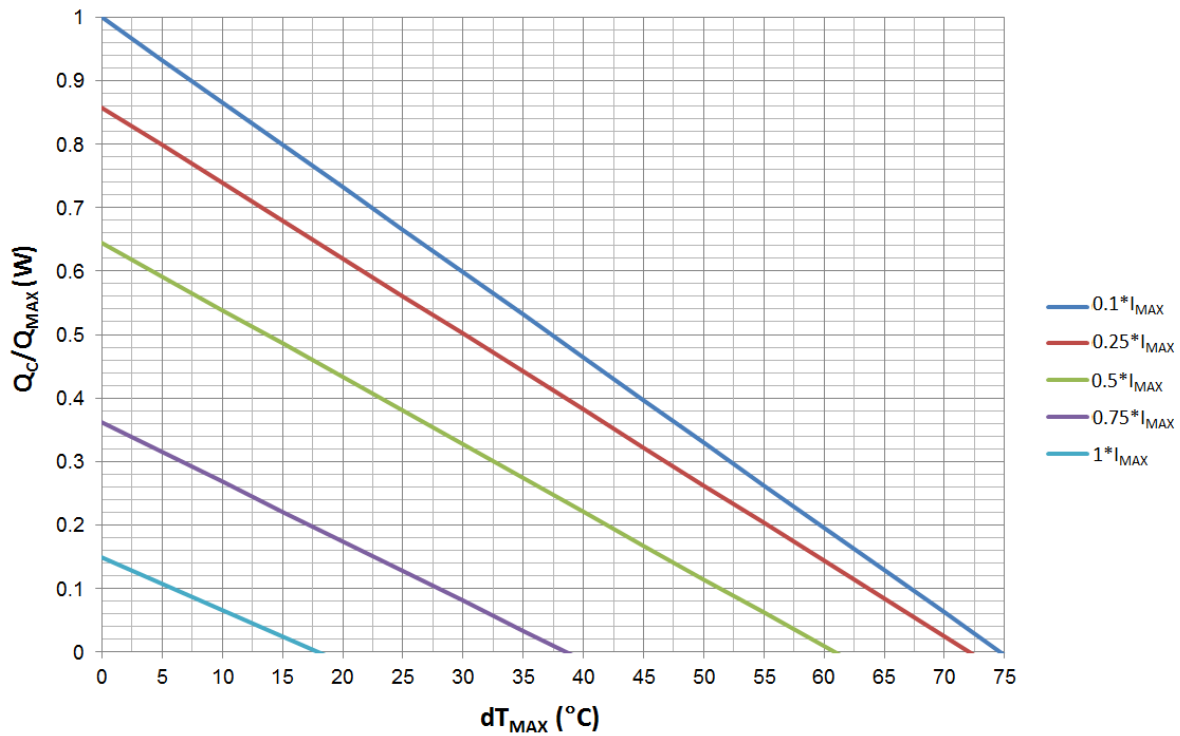
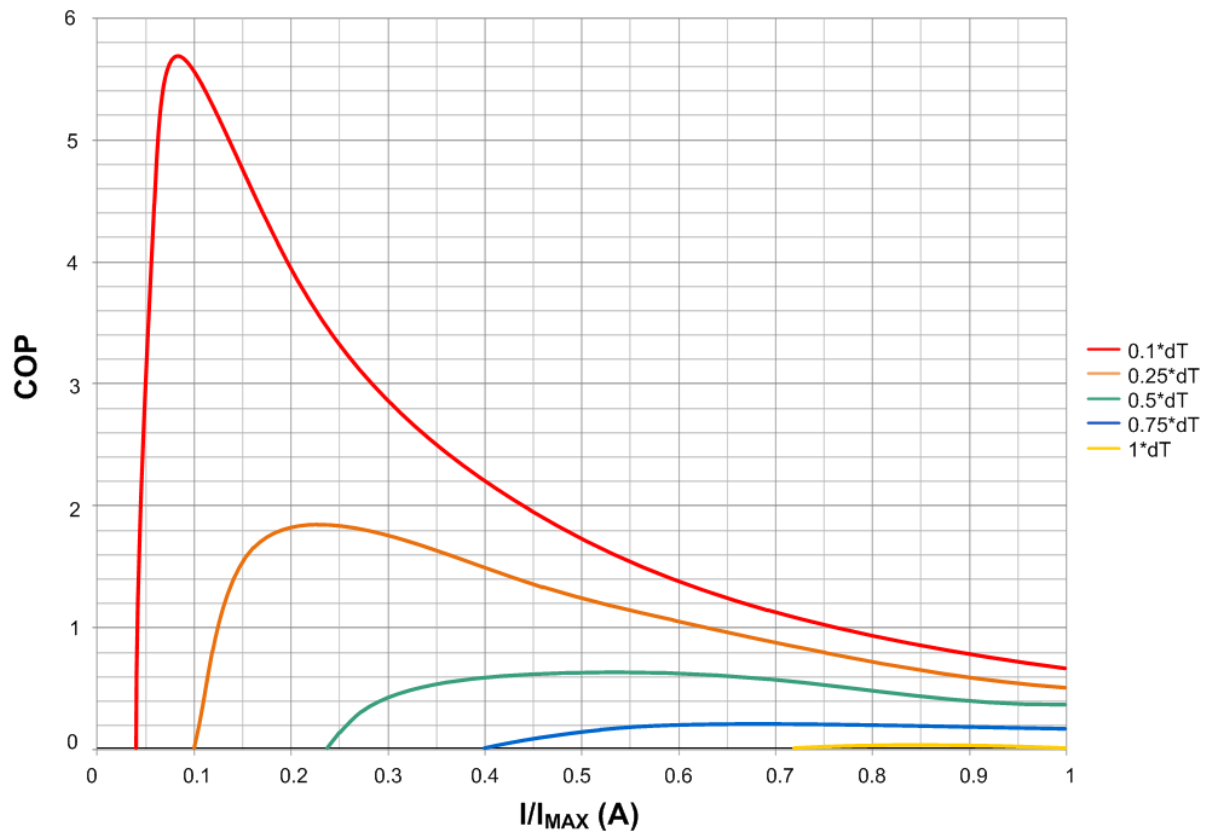
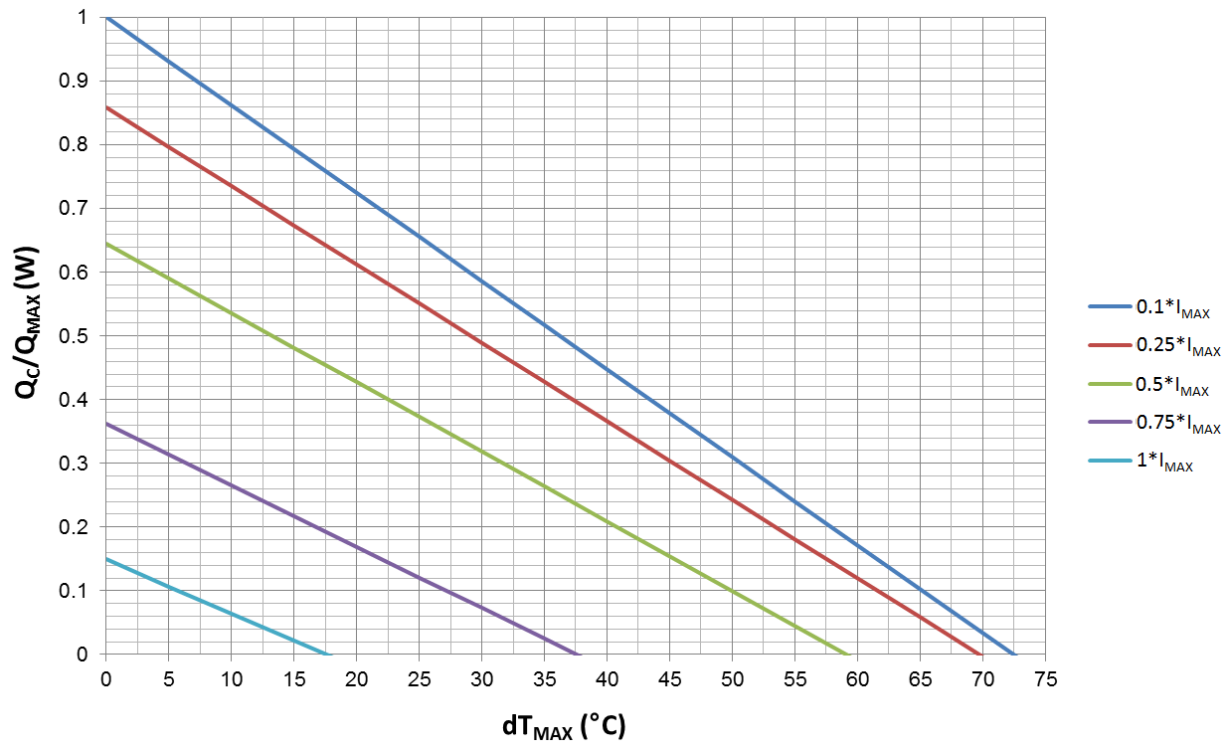
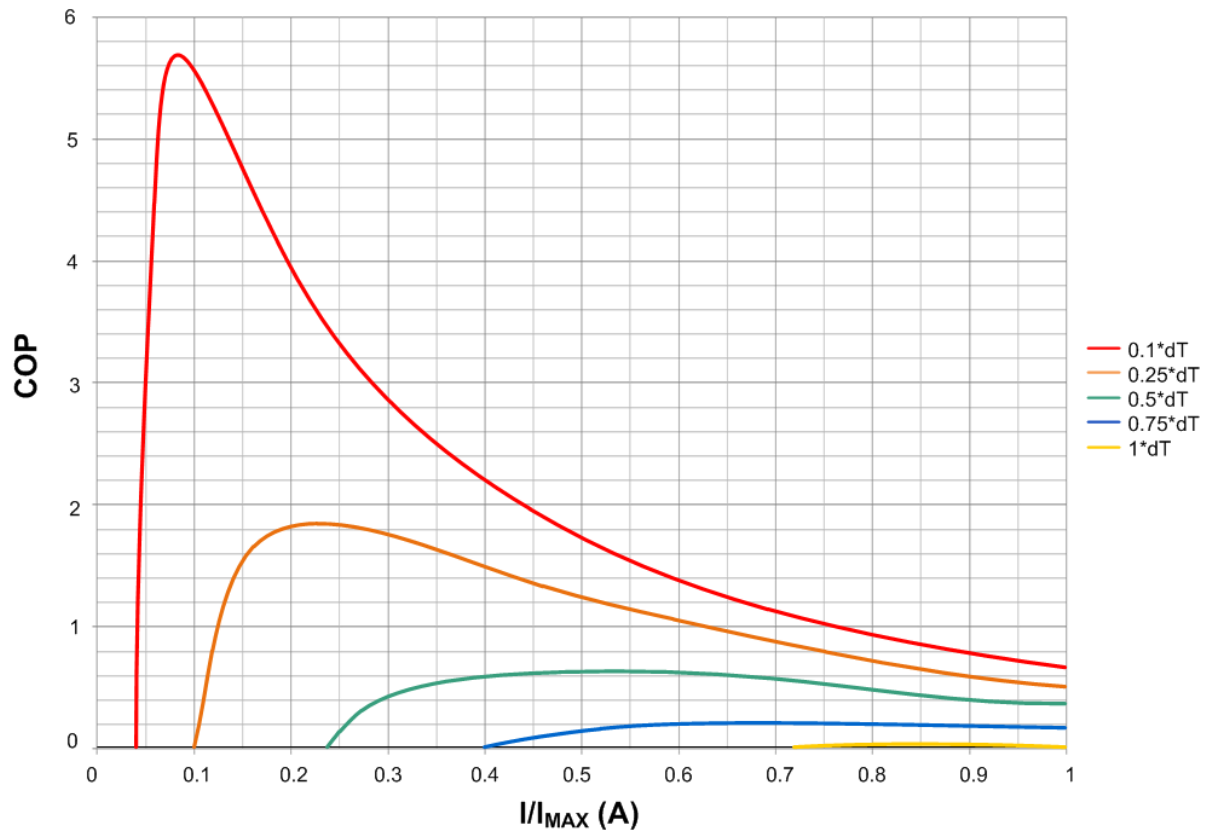

Figure 2. Q_c/Q_{MAX} vs. dT_{MAX}
Figure 5. COP vs. I/I_{MAX}
Figure 6. Q_c/Q_{MAX} vs. dT_{MAX}
Figure 9. COP vs. I/I_{MAX}
5. Use the charts provided in Figure 2 to Figure 5 and Figure 6 to Figure 9, to decide which TEC to use, what is the heat needed to be dumped through the heat sink, what is the heat sink temperature, etc.